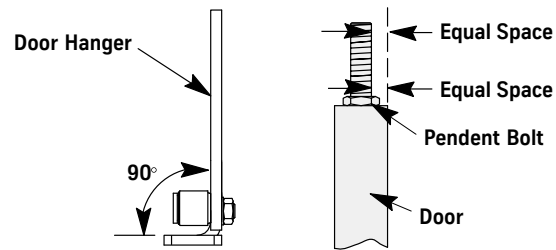

Figure 27 - Install Pendant Bolts
2. Install pendant bolts in the top of the doors, and verify that the bolts parallel the face of the door. Correct as necessary. See Figure 27.